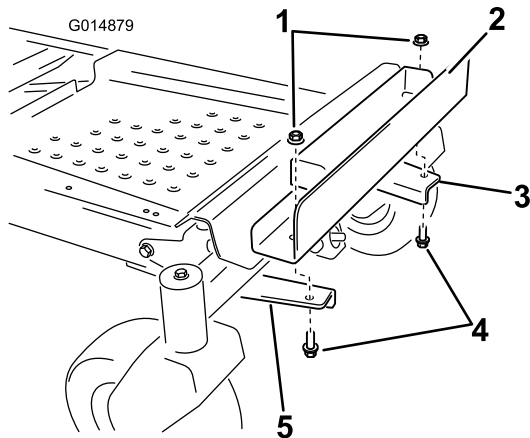

Figure 6
- Install the weight holding bracket to the mounting brackets (Figure 6). Align the inboard holes in the bracket with the mounting brackets installed previously. Make sure the bracket is centered on the frame. Secure with 2 bolts (3/8 x 1 inch) and 2 locknuts (3/8 inch).